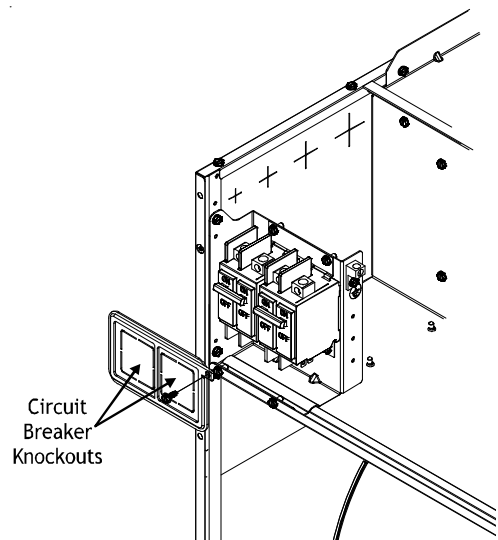

Figure 5
- For all single phase electric heat kits with circuit breakers, break out the appropriate area of the plastic circuit breaker cover on the upper access panel of the air handler. The circuit breaker cover may be rotated if necessary. See Figure 5.